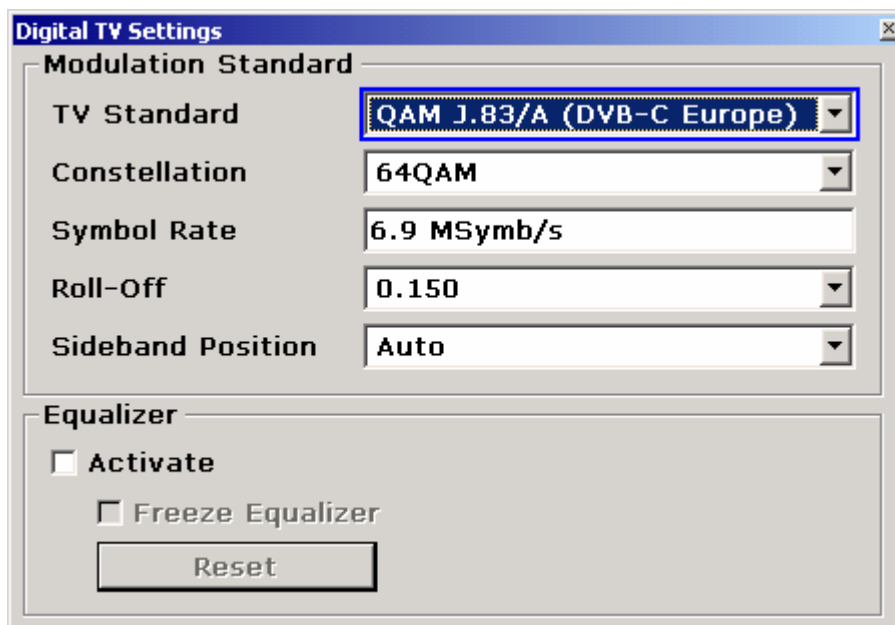

Fig. 2-51 **Digital TV Settings** dialog box
A non-flat frequency response of the analog hardware (amplifiers) or the transmit channel (reflections or echoes in the TV cable) causes inter-symbol interference (ISI). Too much ISI leads to wrong symbol decisions in the QAM measurement demodulator. The QAM measurement demodulator can suppress the channel's influence by filtering the receive signal with the inverse of the channel's response. This operation is done by the so-called equalizer. With the equalizer activated (see **Digital TV Settings** dialog box in Fig. 2-51), the EVM and MER values decrease by the ISI which was removed by the equalizer. Activating the equalizer leads to two things: First of all the equalizer is trained based on the received data of the current measurement (**Freeze Equalizer** option deactivated). Furthermore, the measured signal will be filtered / "equalized" with the previously estimated equalizer filter. If the equalizer has reached a stable state and the channel does not change (time invariant channel) the equalizer can be frozen by activating the **Freeze Equalizer** option. By this means the equalizer will not be trained anymore but will still equalize the signal. Please also refer to the Echo Pattern measurement \(channel analysis\).
- Press the **Digital TV Settings** softkey (see Fig. 2-51).